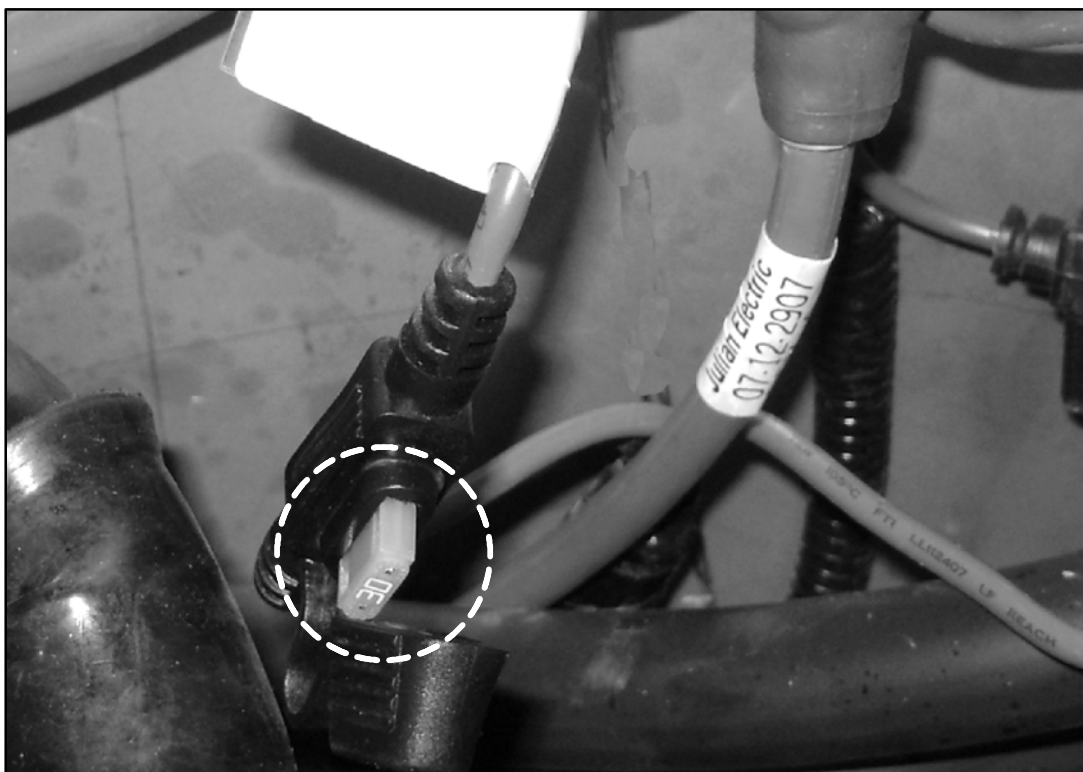

Figure 3.
6. Remove the protective flip–cap. Visually inspect to verify that a 30 AMP fuse is installed (refer to Figure 3).